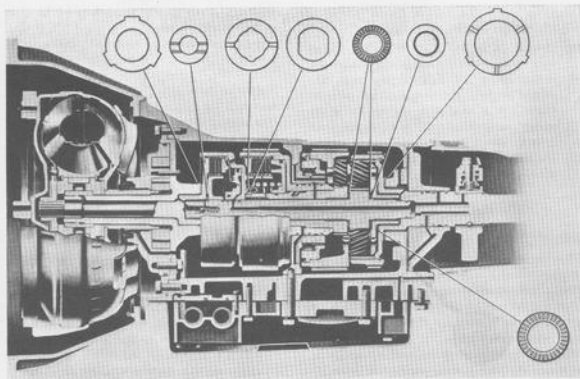
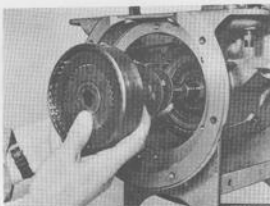

Fig. 4-107. Location of thrust washers
Fig. 4-123. Installation sequence, front clutch cylinder, thrust and backing washers
3. The thrust washers for the driven shaft, see Fig. 4-107, are stuck onto the transmission case with vaseline. The driven shaft complete with ring gears is then installed into the transmission case.
17. Install the clutch assembly with its two different thrust washers in the transmission, see Fig. 4-123. Be careful not to damage the oil sealing rings. For identification of the thrust washers, see Fig. 4-107.